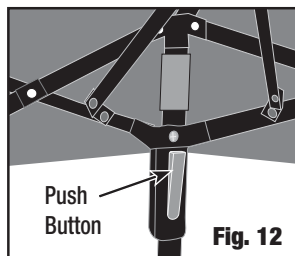

Fig. 12
- Press the push buttons found at upper corners of the frame. (Fig. 12) Collapse shelter frame and store in carry bag.